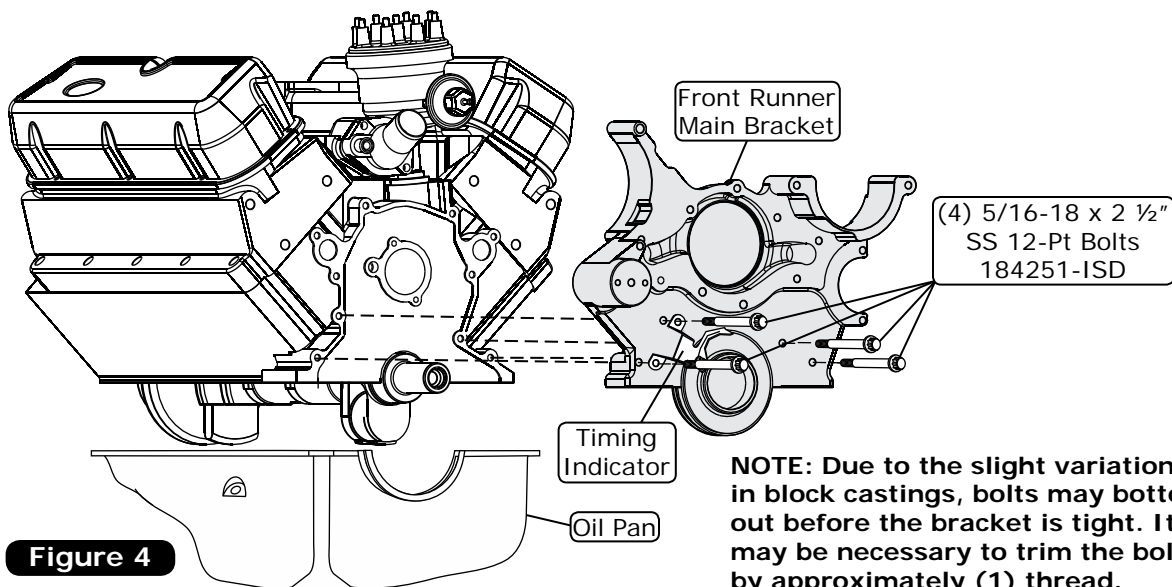

Figure 4
1. Install the Front Runner main bracket as shown in Figure 4, below. **NOTE: Make sure the timing cover/oil pan gasket is aligned properly.**
2. Secure the Front Runner main bracket using (4) 5/16-18 x 2 1/2" SS 12-Pt bolts as shown in Figure 4, below. Torque to 20 lb ft. **NOTE: Install the timing indicator as shown in Figure 4, below.**